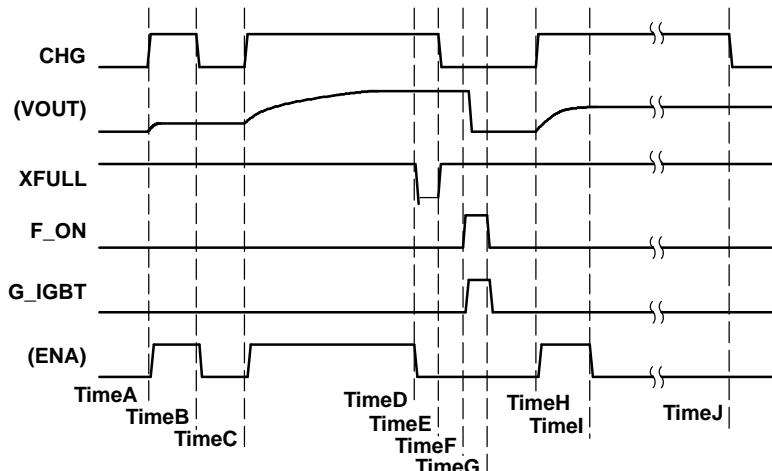

Figure 4. Whole Operation Sequence Chart
The only way to *start* charging is to input $\text{CHG} \uparrow$ (see time A/C/H in Figure 4). Each time $\text{CHG} \uparrow$ is reached, the TPS65552A starts charging.
1. Forced *stop* by inputting $\text{CHG} = \text{L}$ from the controller (see timeB in Figure 4).
2. Automatic *stop* by detecting full charge. VOUT reaches the target value (see TimeD in Figure 4).
3. Protected *stop* by over V_{DS} detection (see Timel in Figure 4).
The device starts charging at *timeH*, and over V_{DS} protection occurs at *Timel* (see Figure 4). At *timel*, XFULL stays H, and the controller detects over V_{DS} protection when the timer ends at *timeJ*. In this event, the controller inputs $\text{CHG} = \text{L}$ to terminate the operation.
The IGBT driver provided by the TPS65552A is a simple buffer in the logical table. Table 3 shows the function (see Figure 4).
To avoid the stress of power dissipation, the TPS65552A provides an overvoltage monitor function at the SW terminal. If this protection occurs, the overvoltage status is latched (see Figure 4 and its descriptions).